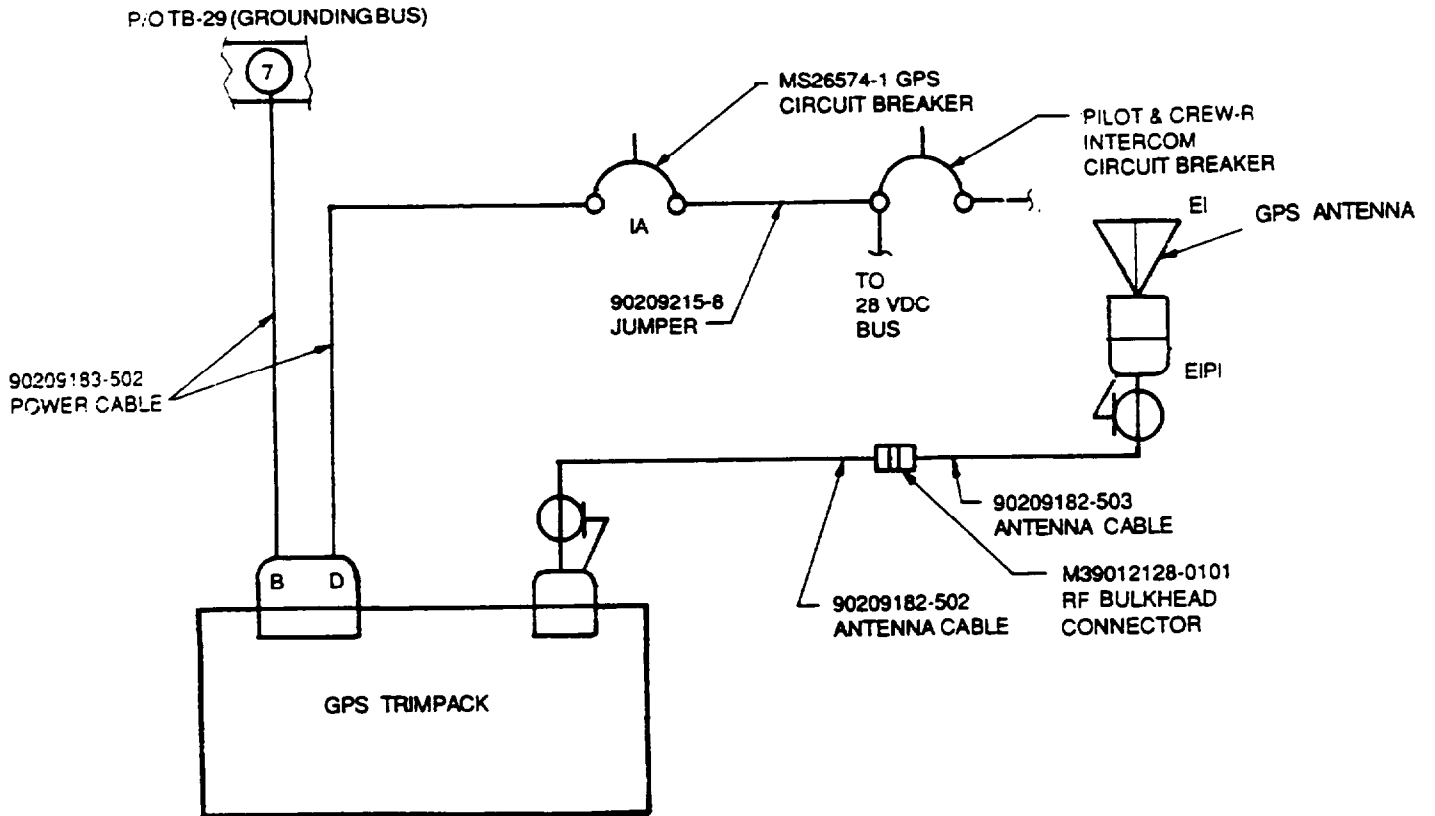

Figure 4. GPS Wiring Diagram
- (4) Close access to overhead console circuit breaker and wiring.
- (5) Install overhead cabin sound proofing blanket.
- (6) Close nose compartment door.
- (7) Connect the aircraft battery.
- (8) Turn power on to provide 28 volts to GPS circuit breaker on center post circuit breaker panel.
- (9) Verify pin B of the GPS five pin audio connector is common with airframe ground and that pin D (see Figure 4) has 28 VDC on it.
- (10) (Optional) Install the Trimpack unit (See note in paragraph 1) and remote antenna in the aircraft. Move the aircraft to outside ramp with good GPS satellite visibility. Power up the aircraft. Turn the Trimpack on and check to see that it acquires the GPS satellites which are visible at the time of the test